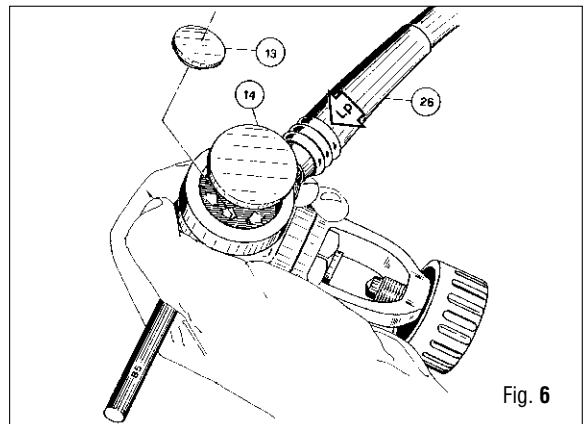

Fig. 6
11. Introduce low pressure air (less than 7 bar - 101.5 psi), remove diaphragm (14) and poppet button (13) (Fig.6).